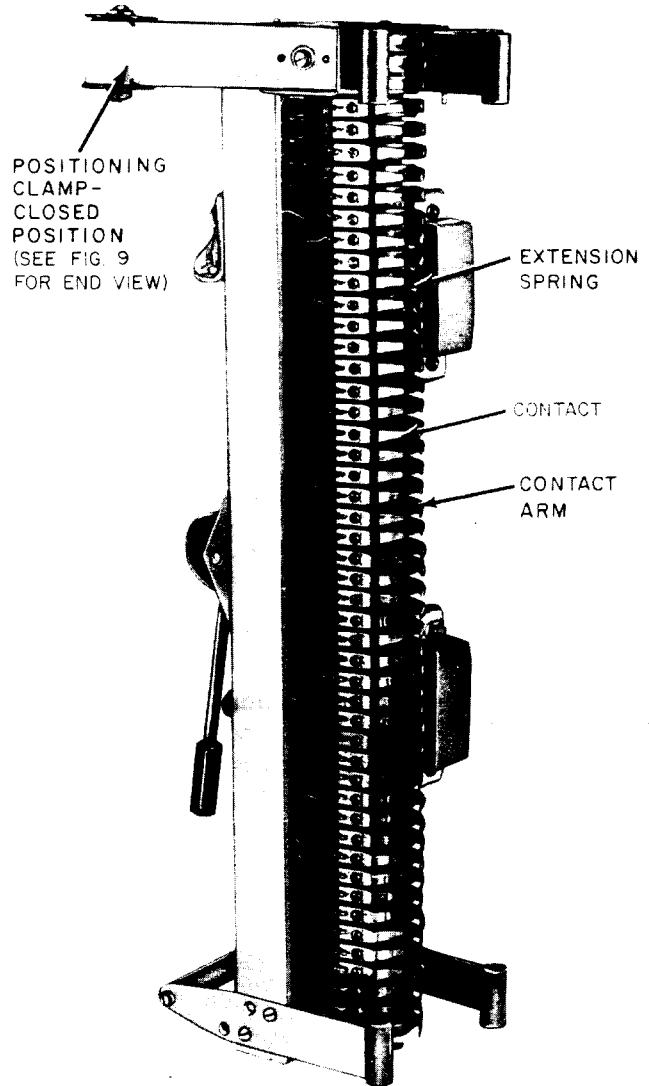

Fig. 2—B Test Connector-Rear View
**3.12** The B test connector is readied for placing on C-50 and similar-type protectors by grasping the handle at the lower end of the connector with the left hand, and moving the cam lever fully upward with the right hand until latched. This will open the contacts. The positioning clamps are extended or rotated from the closed position shown in Fig. 2 to the open position.
**3.20** Remove the cords by unscrewing the jack screws on them. Turn screws simultaneously until the plugs come away squarely from the connectors. Move the lever on the B test connector to the latched position. Grasp the lifting handle at the bottom of the connector. Open the clamps at the top of the connector, and move the test connector horizontally outward away from the protector. With the test connector standing vertically, move the lever downward again closing the contacts. The positioning clamps should then be returned to the position shown in Fig. 2.